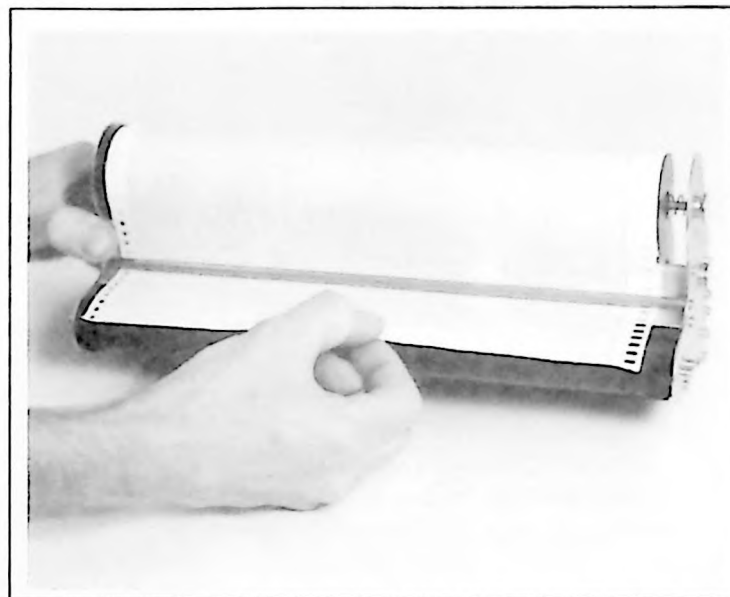

Figure 3-8. Paper Through Paper Guide
- d. Pull paper under first paper guide. See Figure 3-8.